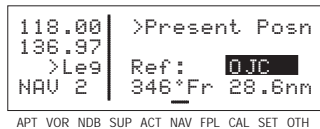

Figure 4-157
1. With the NAV 2 page on the radial and distance from a reference waypoint format, turn on the cursor (CRSR) and move it to the Ref: field (figure 4-157).